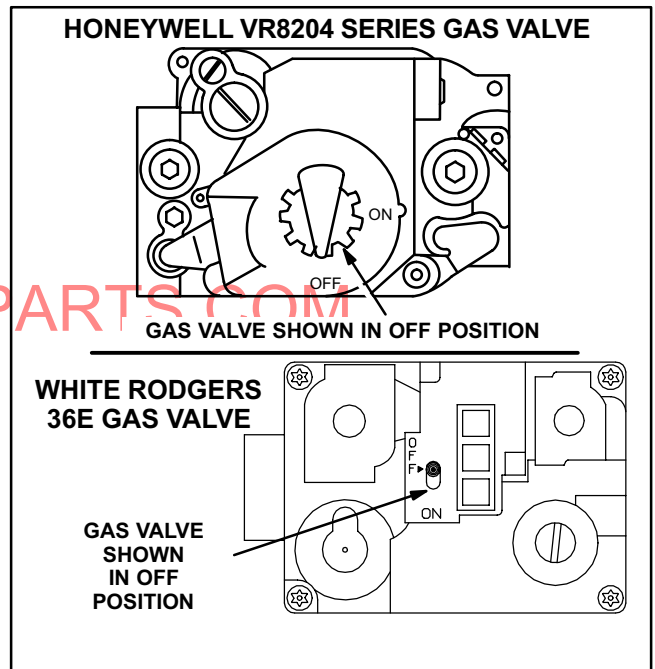

FIGURE 43
How To Operate Gas Valve (Figure 43)
- 6 - On Honeywell VR8204 gas valves, turn knob on gas valve clockwise ➡ to **OFF**. For White Rodgers 36E gas valves, move switch to **OFF**. Do not force. See figure 43.